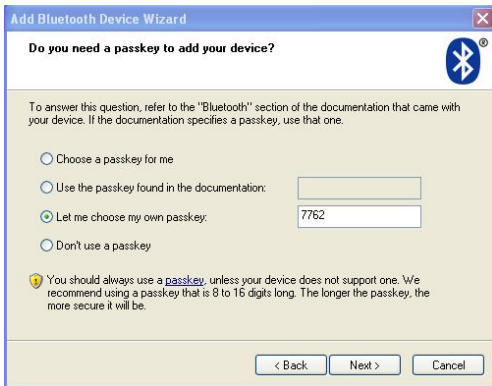

Figure 12
- 7) Choose "Let me choose my own passkey", input the password "7762" in the textbox on right side, then click "Next", the dialogue box as Figure 12 will pop up.